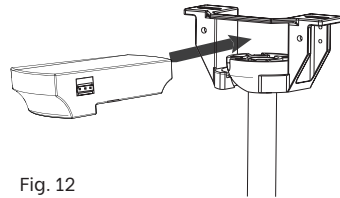

Fig. 12
3. Carefully place the remote receiver between the hanging bracket and ball joint of downrod (Fig.12). Well arrange and route connection wires to ensure no damage will be caused during operation.